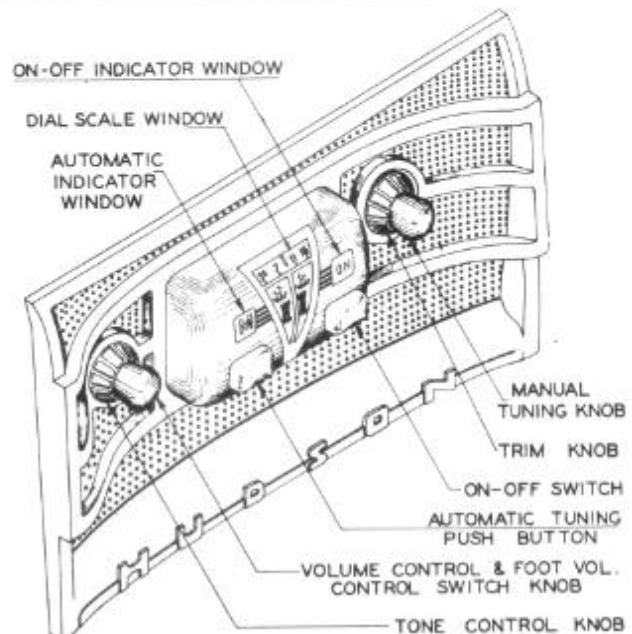

Fig. 1. Operating Controls.
This radio incorporates the new Hudson Automatic Touch Tuning with Foot Volume and Selector Control. The purpose and position of each control is shown in figure 1.
The tone control is located directly behind the volume control knob (Fig. 1). Rotating this control to the right or left will change the tone of the receiver. Turning to the right will emphasize the high notes, while turning to the left will emphasize the bass notes.
11. Fasten the controls in place as shown in figure 1.